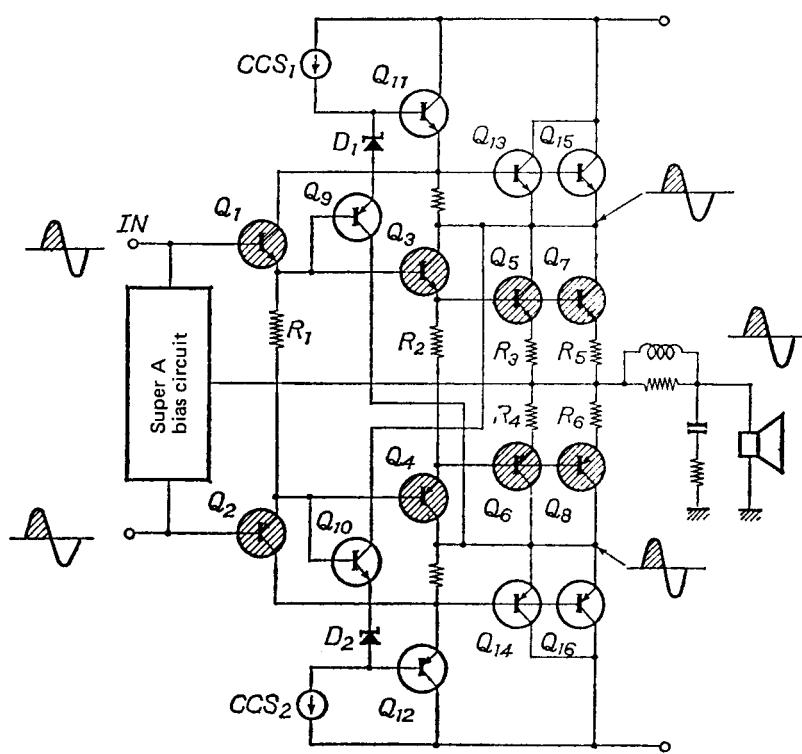

Fig. 7 Power cascode super A circuit in M-L10
**Fig. 7** shows the power cascode circuit used in M-L10.
stage (consisting of transistors shaded with slanted lines). The operating voltage waveform at each section at an input of sinewave is also shown in **Fig. 7**.